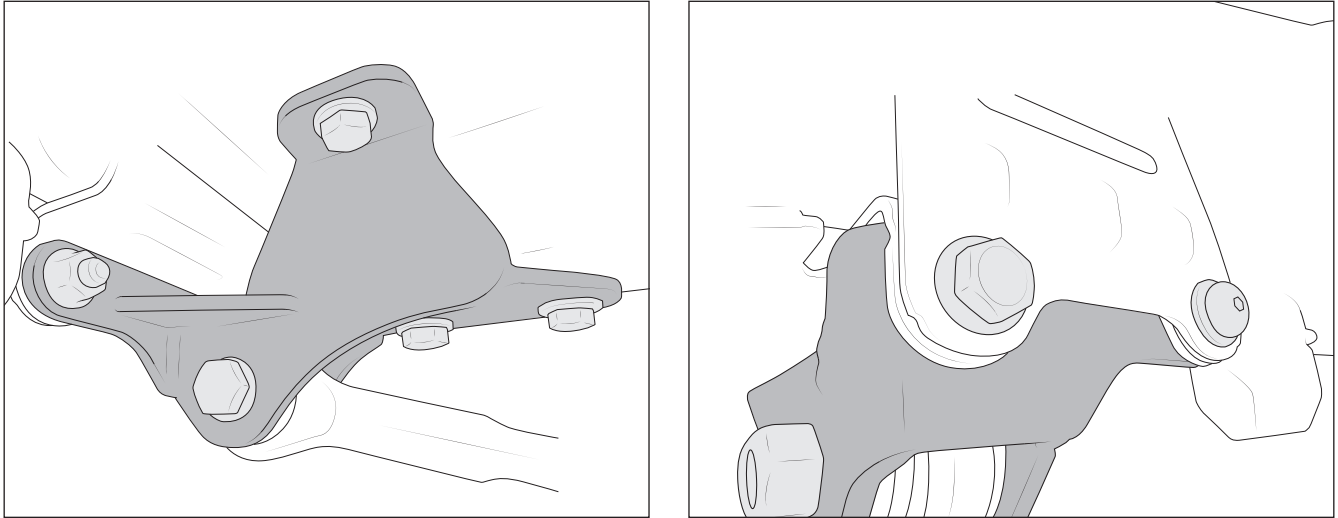

Figure 23
- B. Install AEV supplied frame bracket (fig. 23). Reuse factory hardware into the frame weld nuts. In vertical frame flange, reuse factory bolt with AEV supplied nut ONLY at front location. At rear bolt hole, use AEV supplied M16 button head bolt and nut. Install bolt from outside of cracket. Starting with vertical bolts, torque M14 to 118 ft-lbs. Torque M16 button head to 140 ft-lbs.